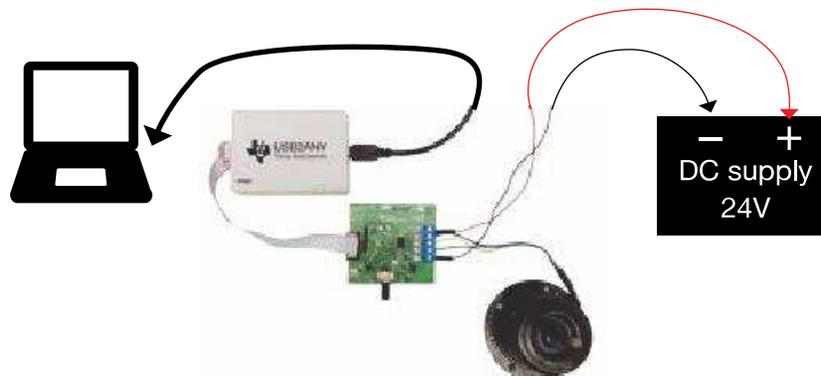

Figure 2. Motor Phases
- Connect the USB2ANY to the computer via the USB cable and to the EVM with the I²C ribbon cable. With a 3 phase motor, connect the motor phases, USB2ANY, V_{CC} and ground as shown in Figure 2 then apply 24 V for the DRV10975EVM and DRV10983EVM. Apply 6.2 V - 24 V for DRV10983Q1EVM and DRV10987EVM.